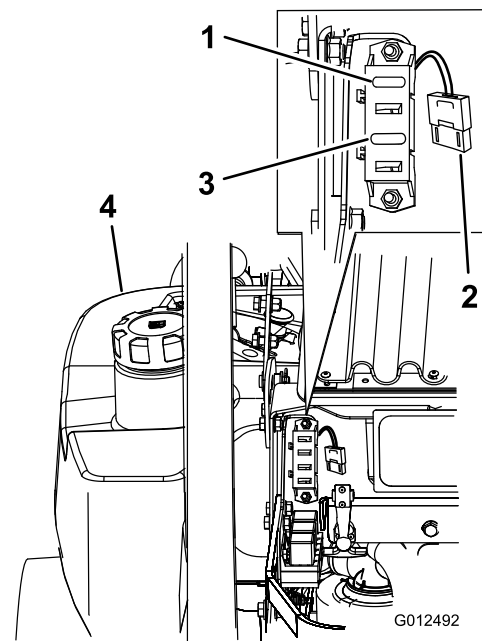

Figure 63
1. Unlatch the engine hood and raise the engine hood to gain access to fuse holder (Figure 63).
3. Install a new fuse (Figure 63).